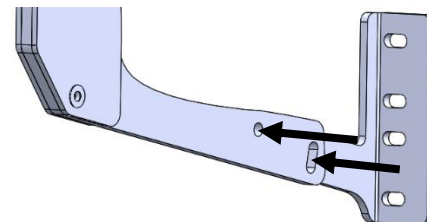

Figure 5: Light Bar Installation onto Brackets
4. Install Light Bar onto mounting brackets and bolt down using included 5/16"-18 x 1 1/4" bolts. Reference Figure 5.